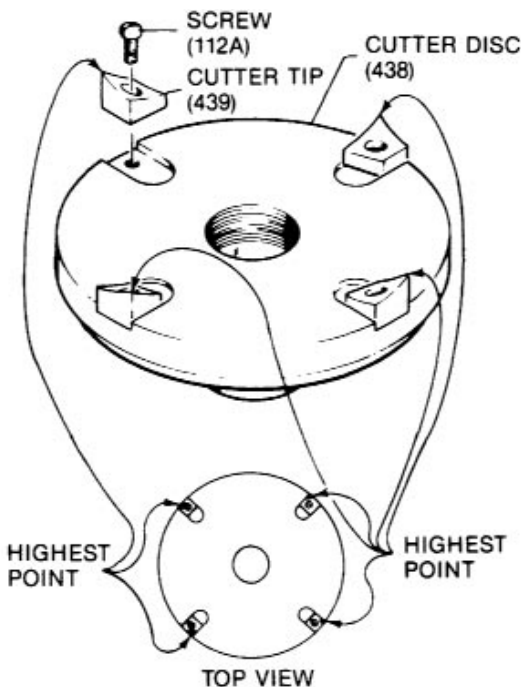
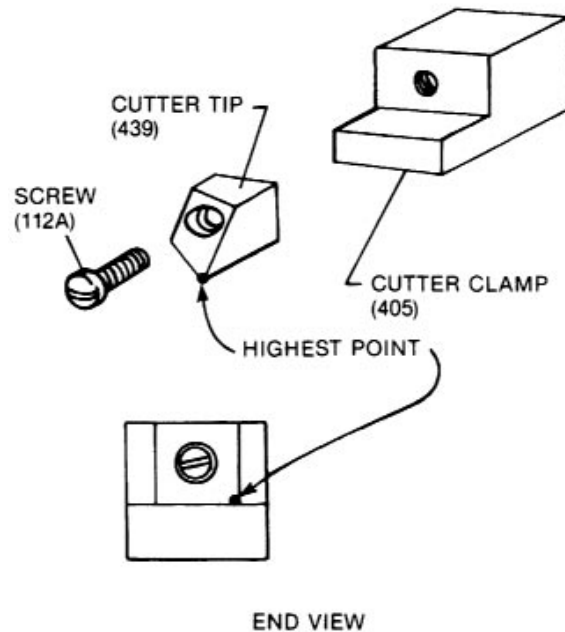

Figure 1
Figure 2
- Attach cutter tips (439) to cutter disc (438) with screws (112A). See Figure 1 for correct position.
- Screw cutter tip and cutter disc assembly on drive shaft (26) in a clockwise direction (RH thread).
- Attach cutter tip (439) to cutter clamp (405) using screw (112A). See Figure 2 for correct position.